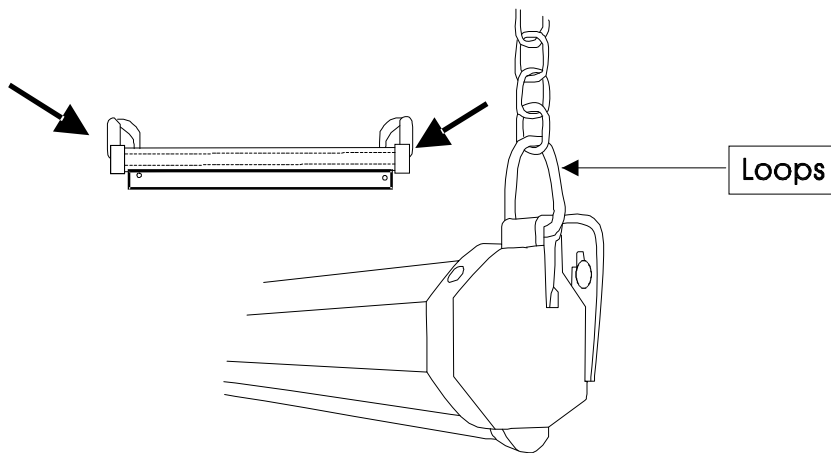

Fig. 2
1. You can also hang the screen from the ceiling by using a chain with s-hooks through the end cap D-rings (not included) suspended by the two loops located on each end of the case as shown on (Fig. 2).